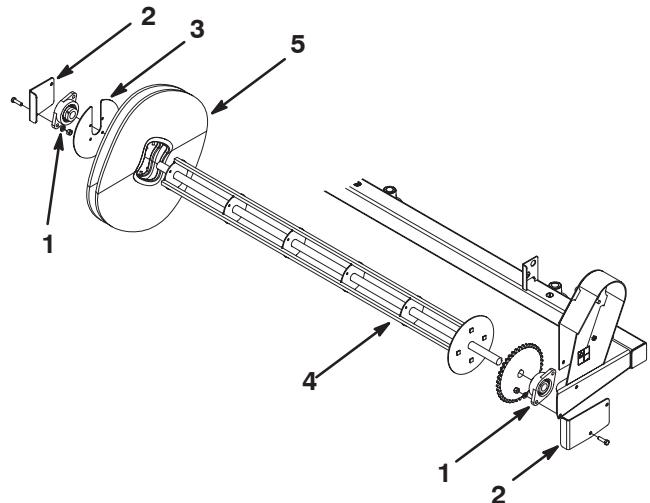

Figure 22
3. Remove fasteners securing axle bearings to right and left guards. This will allow removal of axle assembly and bearings (Fig. 22).